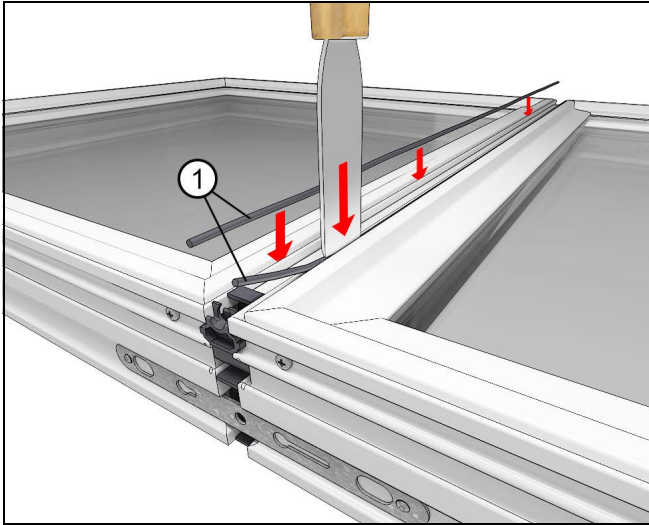

Figure 11
1. Apply kerf weather strip into exterior accessory kerf by using a thin putty knife. Kerf weather strip should reach both ends of the accessory kerf, but not wrap around the corner. See Figure 11.